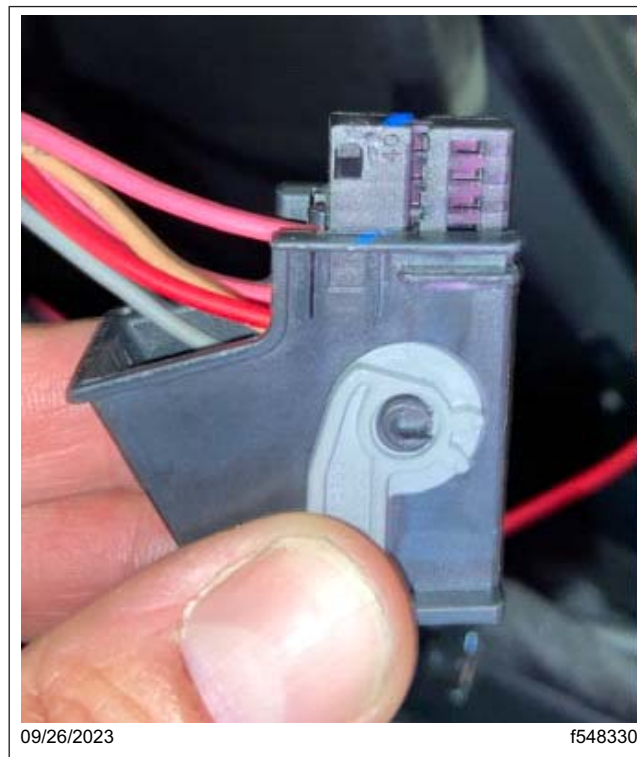

Fig. 53, Inserting the Black Terminal Bank into the XMC2 X2 Connector
22. Insert the black terminal bank back into the XMC2 X2 connector, as shown in Fig. 53.